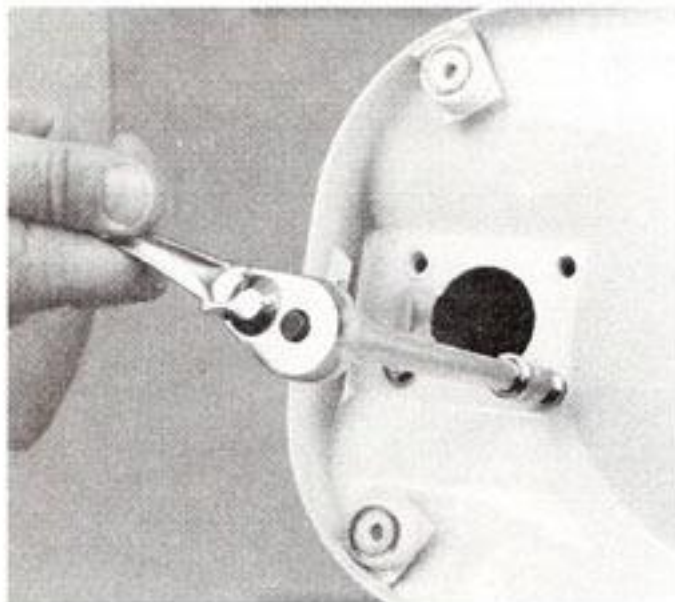

Fig. 95
- J. Place the base on the bottom of the column and screw in the four $\frac{5}{16}$ "-18 x $\frac{3}{4}$ " round head screws (Fig. 95). Be sure these screws are very tight to prevent shaking loose (70 to 90 in. lbs.).